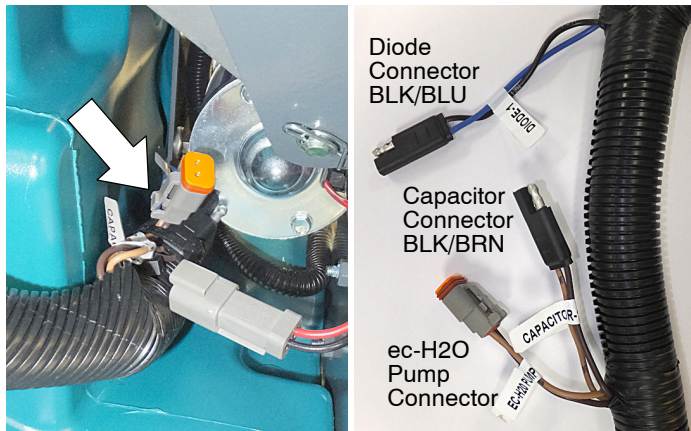

Fig. 27
11. Locate the the factory installed pump connector, capacitor connector and diode connector wire-tied to the main machine harness near pump (Figure 27). Cut the wire-tie to access the connectors.